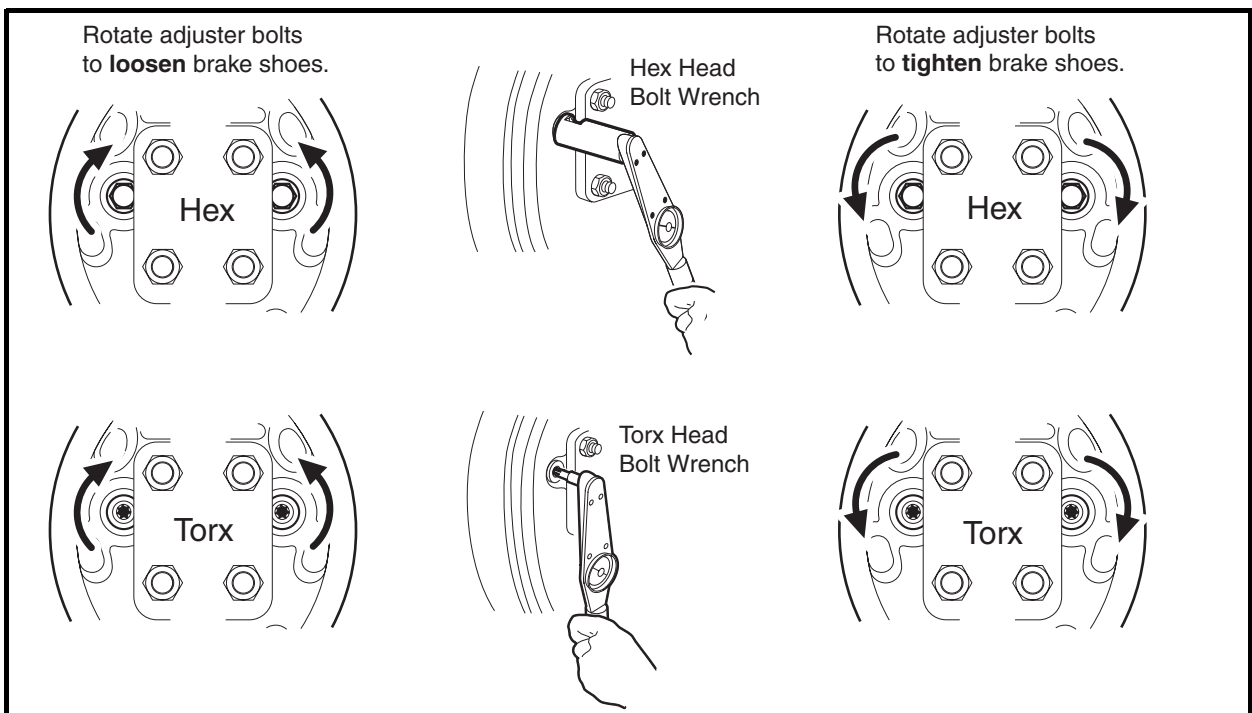

Figure 6-3 Loosen or Tighten Brake Adjusters
- 5.2. Use a torque wrench and a Torx #T-27 driver, or hydraulic brake adjuster (CCI P/N 102169401), and gently rotate the adjuster bolts to increase the clearance between the brake shoe lining and the brake drum (**Figure 6-3, Page 6-7**). See following **NOTE**.
- 5.2. Use a torque wrench and a Torx #T-27 driver, or hydraulic brake adjuster (CCI P/N 102169401), and gently rotate the adjuster bolts to increase the clearance between the brake shoe lining and the brake drum (**Figure 6-3, Page 6-7**). **See following NOTE.**